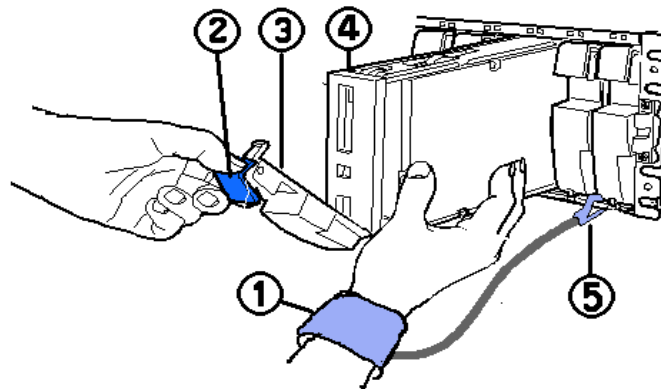

Figure 4-3: Removing a Disk Drive
3. Holding the disk drive, as shown in Figure 4-3, carefully slide the disk drive out of the unit and place it in a static protective bag.